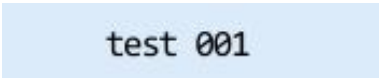

Figure 3.2a Experiment File Interface - File Name
- 1. **File name:** display the name of the file selected by the user, as shown in Figure 3.2a.